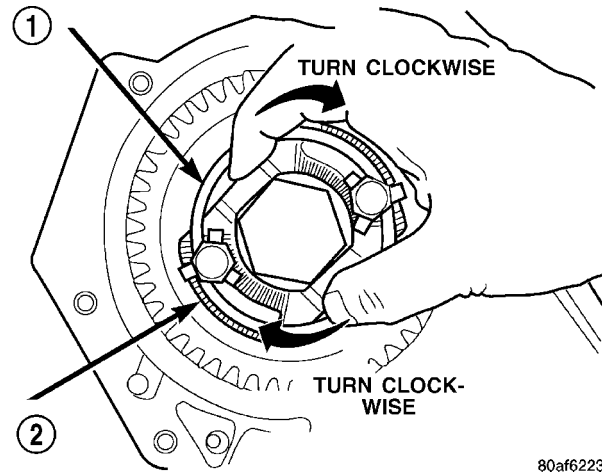

Fig. 108 Turn Stirrup Clockwise Against Flats Of Output Gear Retaining Bolt
(21) Rotate stirrup clockwise against flats of retaining bolt (Fig. 108).